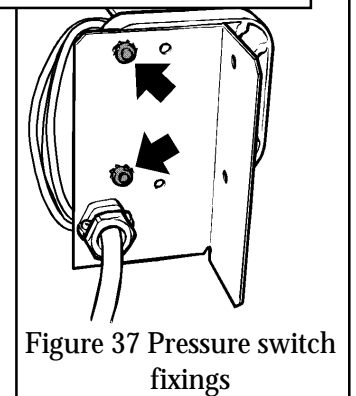

Figure 37 Pressure switch fixings
13.11.2 Detach the pressure switch from the control bracket by removing two screws, nuts and shakeproof washers (see figure 37).